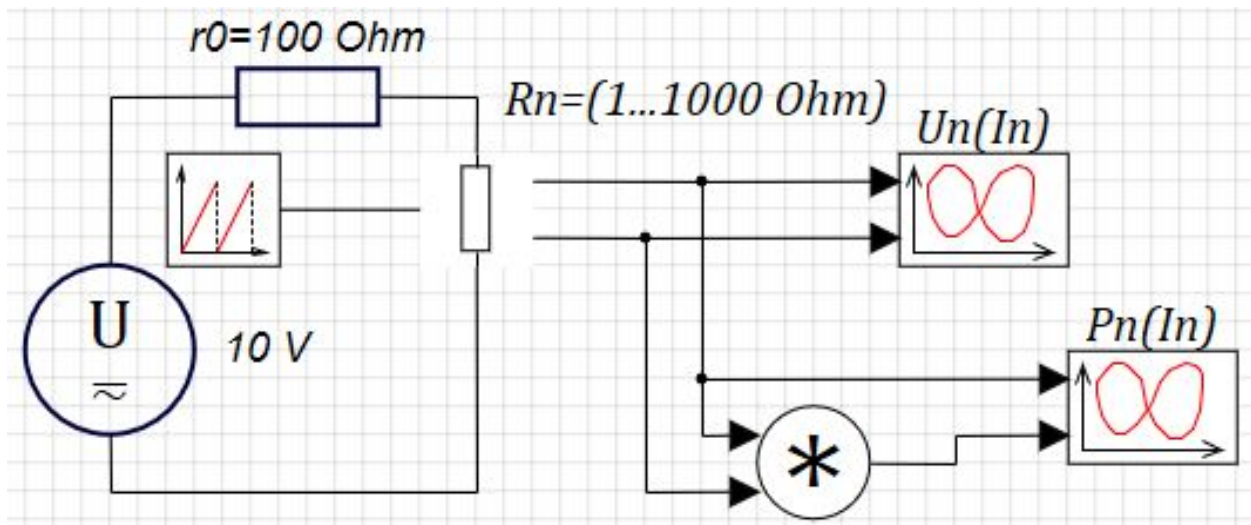
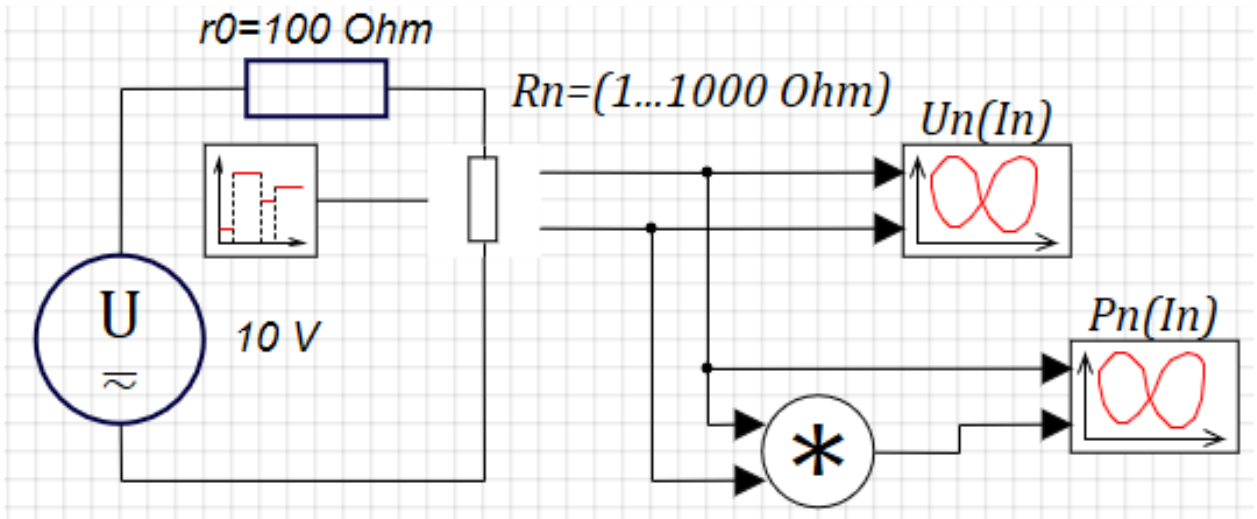

Figure 2.18
Figure 2.21
12. Connect the blocks together in accordance with the Figure 2.18.
14. Perform a simulation for the circuit in the Figure 2.18 by setting the value of the constant voltage component for the **Voltage source** block in volts equal to the option number plus 10.
15. Replace the **Saw** block in the model in the Figure 2.18 with a **Piecewise Constant** block from the **Sources** library (Figure 2.21), which generates an arbitrary multi-stage output signal.